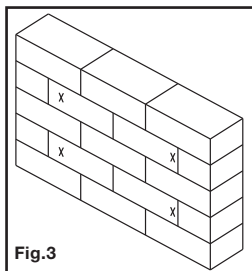

Fig.3
2. While another person holds the wall plate in place, mark four evenly spaced locations on the wall for securing the mount (see Fig. 3).